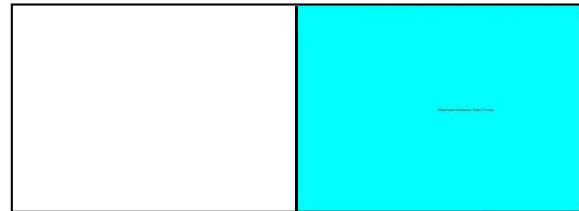

Fig.45
- When screen jump to Screen 2, please touch it. If screen 2 has no touch function, press “S” to skip it. (Fig.45)